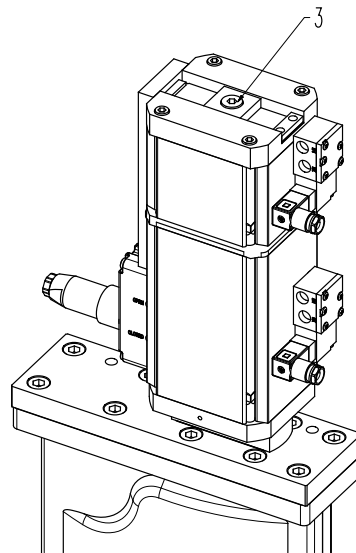

Figure 6-1
1. Activated solenoid valve (1); see «Figure 6-1» on page 15.
2. De-activated solenoid valve (2).
3. Adjust the intermediate position by turning the adjustment screw (3).